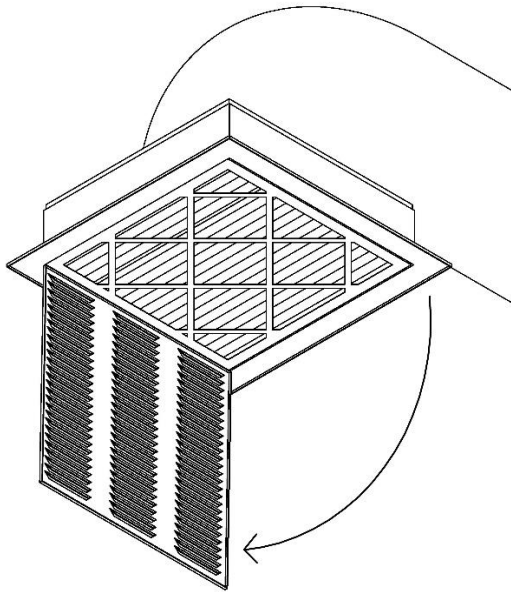

Figure 5
- 1.) Open return filter grille. See Figure 5.